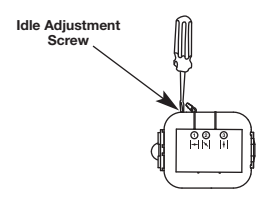

Fig. 20
The idle speed of the engine is adjustable. An idle adjustment screw is between the air filter cover and the engine starter housing (Fig. 20).
- Release the throttle trigger and let the engine idle. If the engine stops, insert a small Phillips in between the air filter cover and the engine cover (Fig. 20). Turn the idle speed screw in, clockwise, 1/8 of a turn at a time (as needed) until the engine idles smoothly.